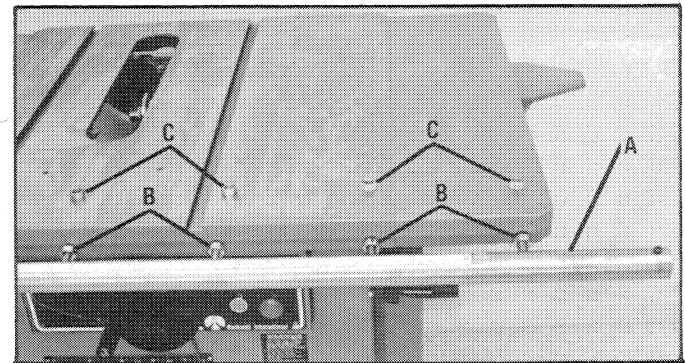

Fig. 14
The rip fence guide rail (A) Fig. 14, is to be assembled to the three holes in the front of the saw table and the one hole in the front of the right extension wing, as shown. Nuts (B) Fig. 14, are positioned and fastened onto the guide rail screws at the factory to allow for proper alignment of the guide rail to the table. Fasten the guide rail to the table using the four nuts (C) Fig. 14.